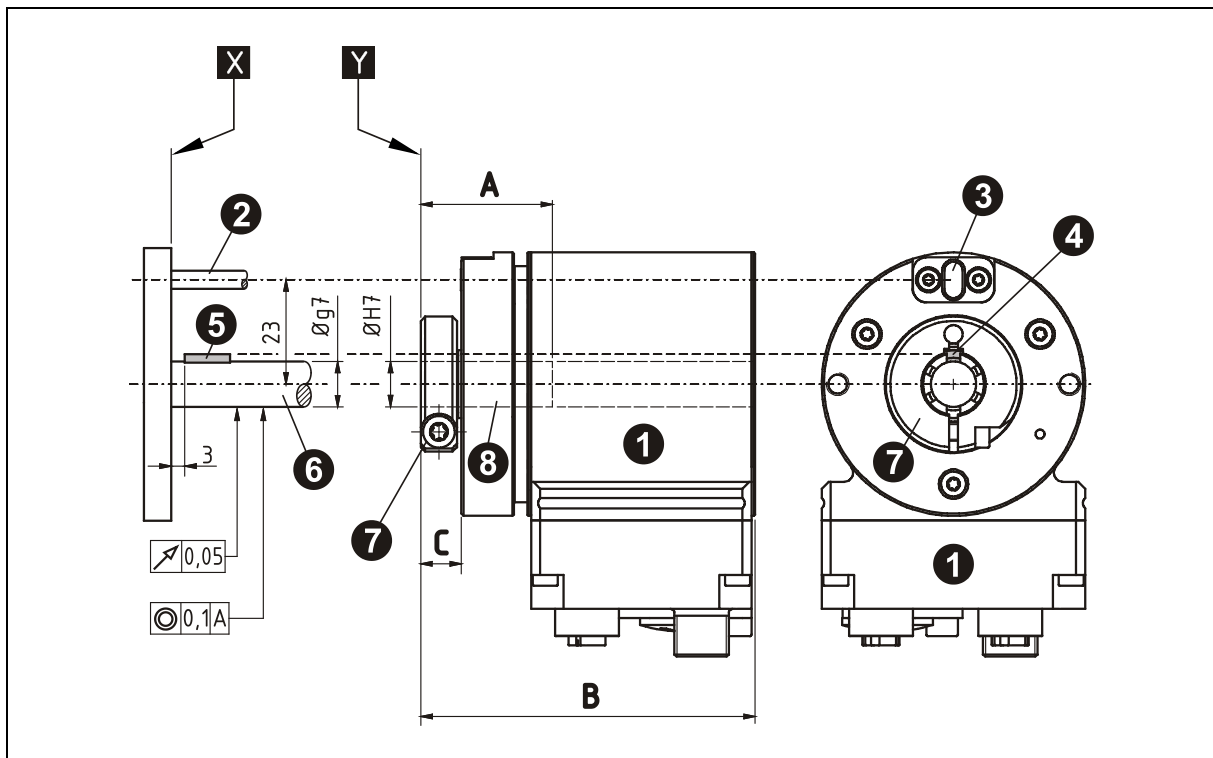

Figure 10: Installation with dowel pin and groove insert, illustration showing the principle
- A dowel pin is used to fix the measuring system on the drive end, see Figure 10.
- The dowel pin must extend at least 4 mm into the groove insert, max.5.5 mm. The distance from the measuring system flange **Y** to the customer-provided device plane **X** must be > 1.5 mm, see Figure 10.